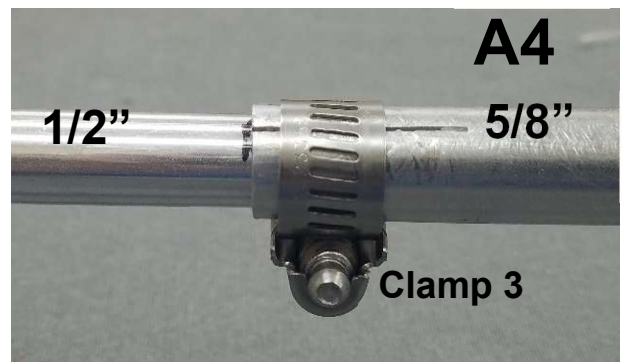

FIGURE 121
□ **STEP 12.4** Slide the non-slotted 1/2" tube into the slotted 5/8" tube of section A4, up to the 4" mark on the 1/2" tube, as shown in **FIG. 121**. (11603)
□ **STEP 12.5** Slide the #6 SS tube clamp 3 over this assembly, align with the slotted area of the 5/8" A4 tube. Tighten securely with screw side down, as shown in **FIG. 121**.